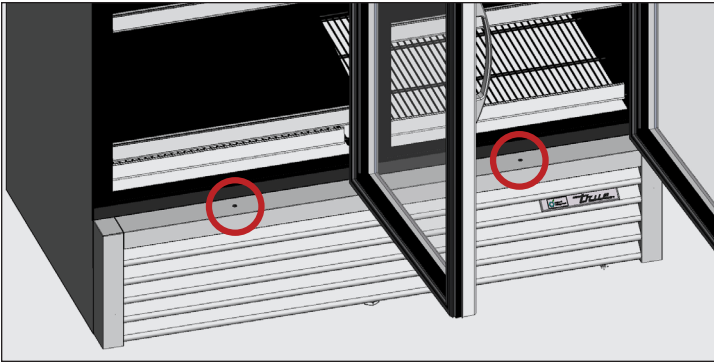

Fig. 1. Front louver grill screw location. Two-door unit shown.
2. Remove the front louvered grill from the appliance. See fig. 1 and 2.